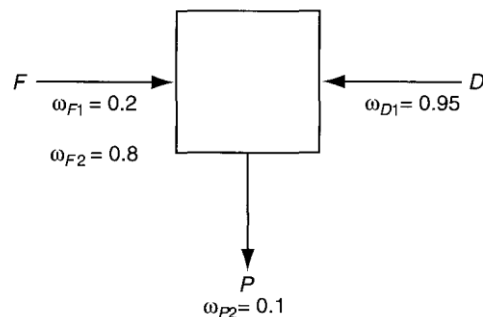

Figure SAT7.2P3
3. How many values of the concentrations and flow rates in the process shown in Figure SAT7.2P3 are unknown?